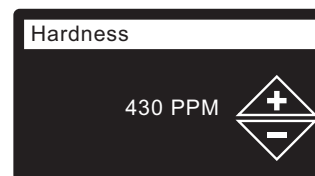

FIG. 31
13. **HARDNESS** Press the UP (▲) or DOWN (▼) buttons to set the value of your water's hardness (See Figure 31).